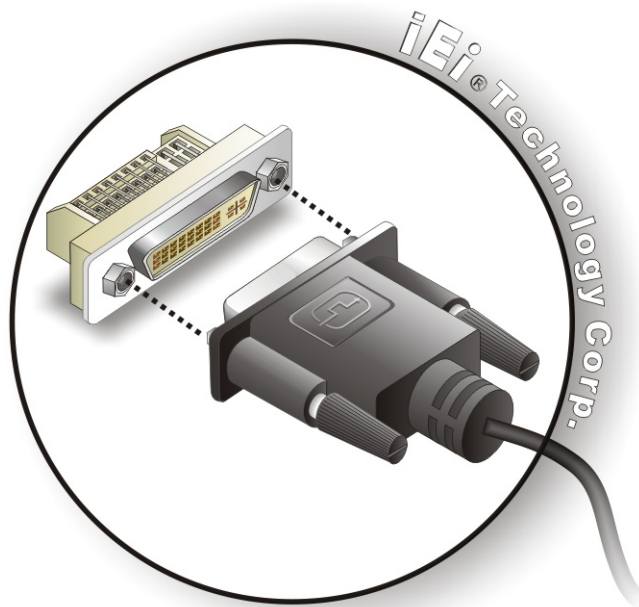

Figure 4-14: DVI Connector
Step 3: Insert the DVI-I connector Once the connectors are properly aligned with the male connector, insert the male connector from the digital display device into the female connector on the KINO-AH612. See Figure 4-14.